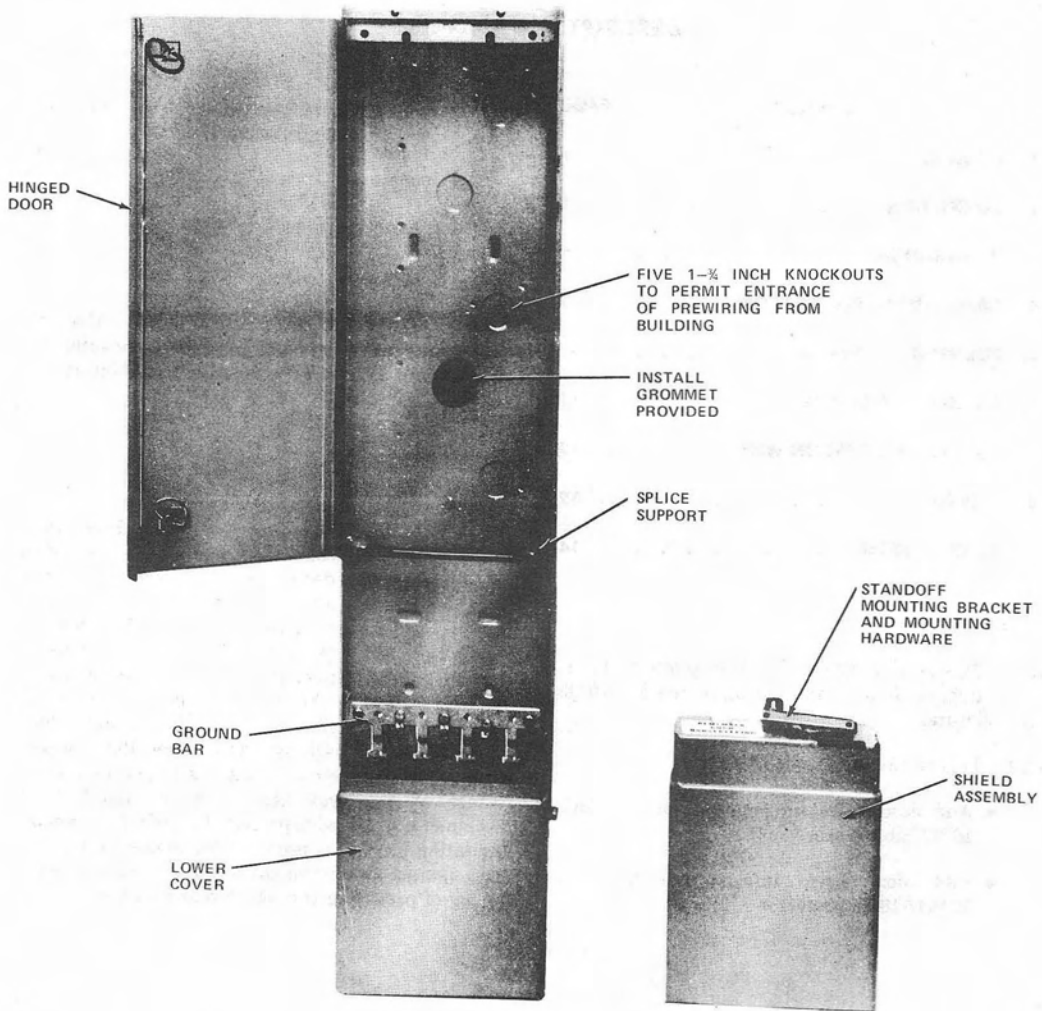

Fig. 1—MC-10/48 Cable Closure
2.01 ♦The MC-10/48 cable closure (Fig. 1) is a wall-mounted closure 48 inches high, 10 inches wide, and 4 inches deep, painted gray-green. The closure is divided into two chambers to separate cable splicing and station wiring operations. The enclosed lower chamber is provided with brackets for securing, bonding, and splicing cable. The size of cable loop or cable splice that the lower chamber will accommodate is listed in Table A. The upper chamber which has a hinged door is designed to house a 199-type protector. The closure has knockouts to permit the entrance of the rewiring from the building. A grommet is provided to protect the wiring. A standoff mounting bracket is provided for mounting the closure against an uneven surface and to facilitate entering of prewiring through a rear knockout.